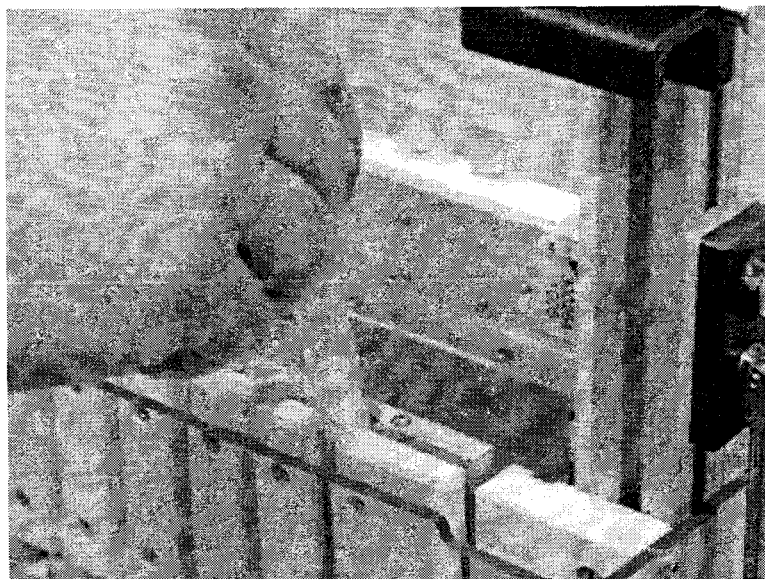

Figure 7. Remove the RV from the holder
3. With your fingers, remove the RV from the Reactor Unit (**Figure 7**)